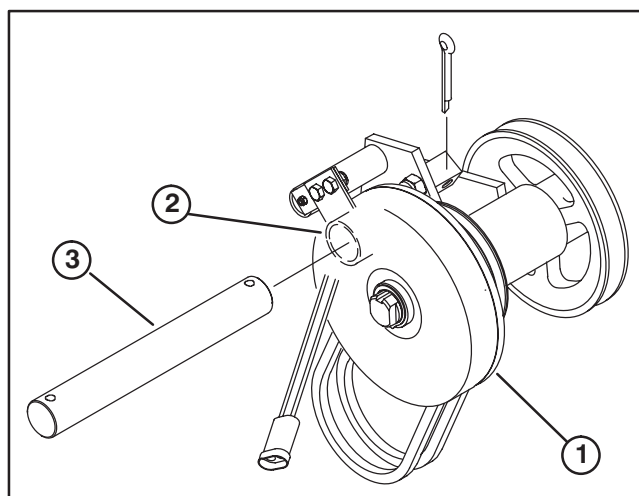

Figure 6
25. Place V-belts (matched set included with kit) into groves of clutch pulley (Fig. 6).
26. Apply a coating of grease to pivot shaft and insert shaft into tightener bracket tube of clutch assembly (Fig. 6).
27. Slide shaft through tube and install a cotter pin into shaft at pulley end of tube (Fig. 6).
28. Push pivot shaft thru tube until clutch end of shaft is flush with clutch end of tube (Fig. 6).